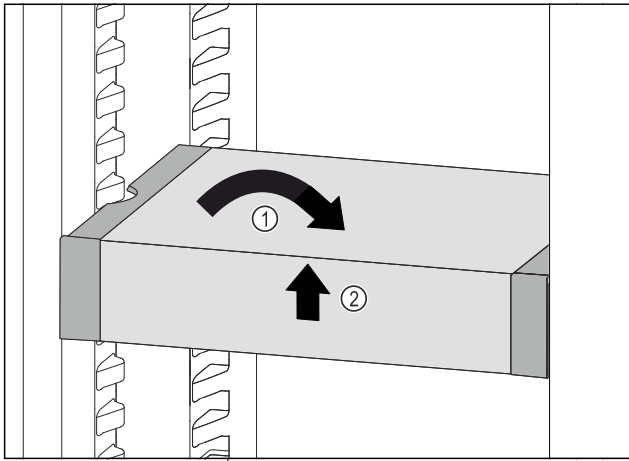

Fig. 195
- ▶ Set VarioSafe straight. Fig. 195 (1)
- ▶ Lift VarioSafe at the front. Fig. 195 (2)